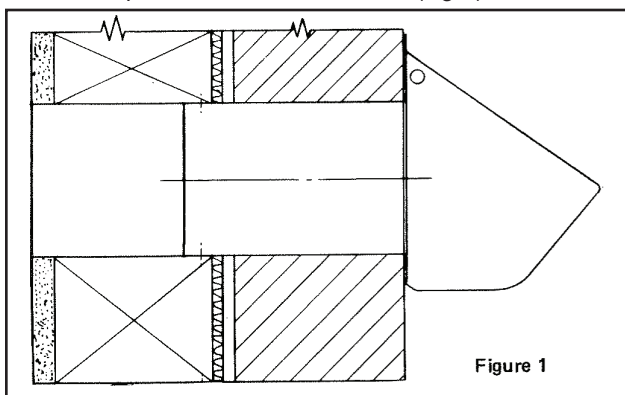

Figure 1
2. Determine thickness of final wall and adjust wall cap and duct to that cap will be flush with face brick. (Fig. 1)
3. Determine thickness of final wall and adjust wall cap and duct so that cap will be flush with siding. (See Fig. 1)